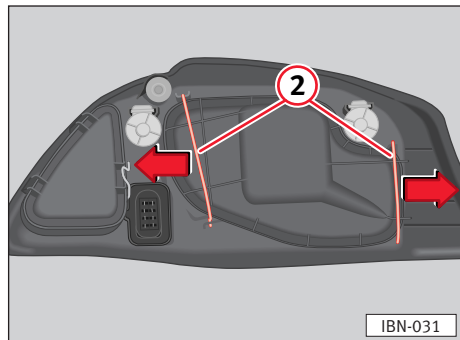

Fig. 148
- Move retaining rods ⇒ **fig. 148 ②** outwards in the direction of the arrows and remove cover.